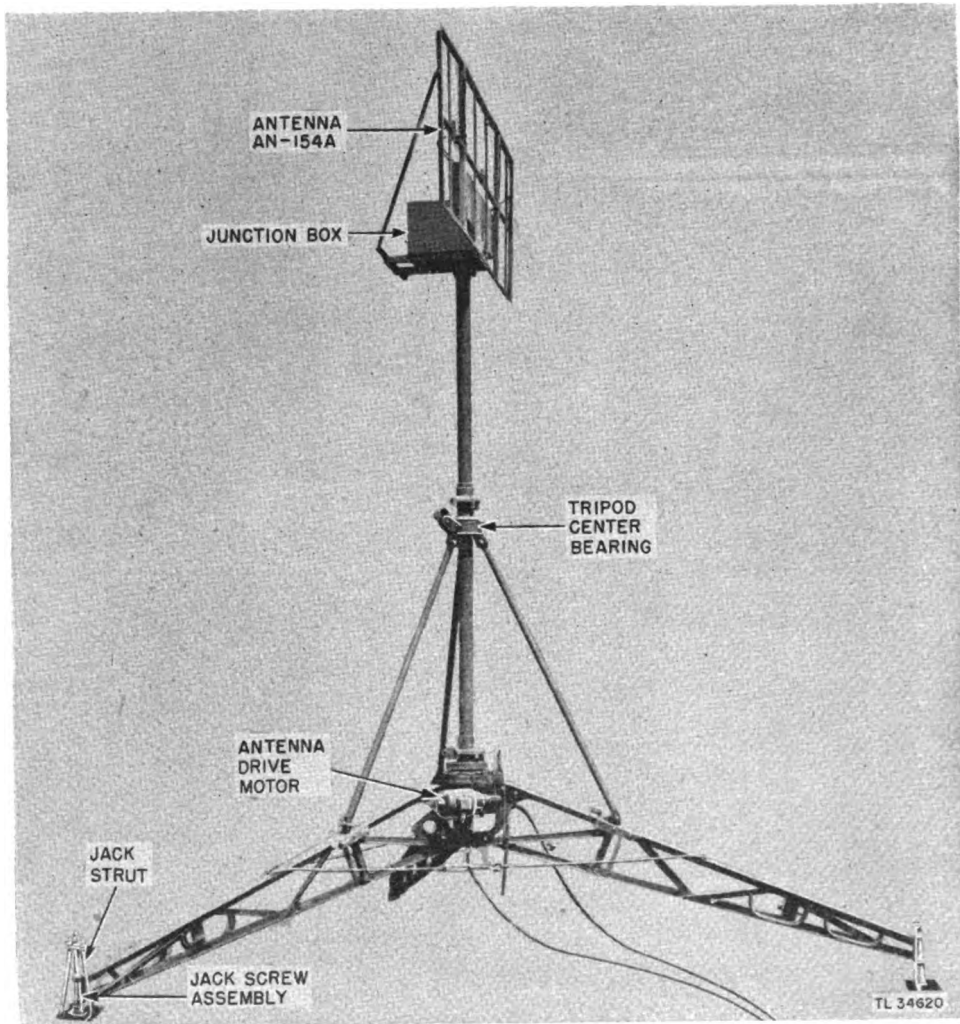

Figure 31. Antenna AN-154-A and Tower TR-24-A.
(2) Be very careful when performing maintenance above the ground level. Make sure the ladder used is secure.
d. LOCATION (fig. 31).
- a. LOCATION (fig. 31).
- (1) For chipped paint on antenna.
- (2) The assembly bolts and screws for tightness.
- (3) The mountings for tightness.
- (4) The reflector wires of the antenna for cleanliness.
- a. LOCATION (figs. 31 and 32).
(3) (Every 3 months.) The jack screws and jack struts. (See fig. 31.) Brush or wash the screw threads on the jack screws and jack struts. Lubricate with oil from the oilcan. Wipe off all excessive lubricant.
(4) (Every 3 months.) The grease fittings of Tower TR-24-A (figs. 31 and 32) located at—